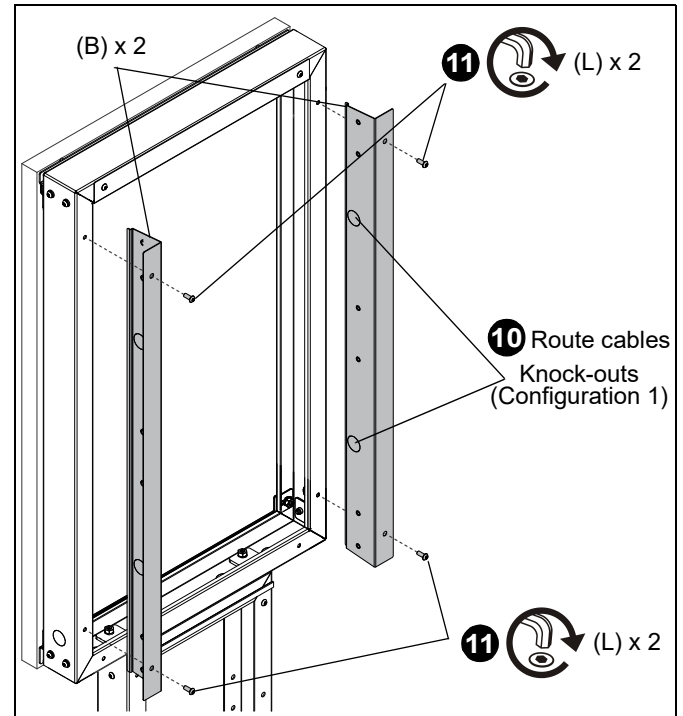

Figure 18
10. Route all cables from sides of frame(s) through grommets in vertical covers (B) towards the center of the frame.
11. Install two vertical covers (B) to the sides of the frame(s) using four M8 x 20mm security screws (L). (See Figure 18)